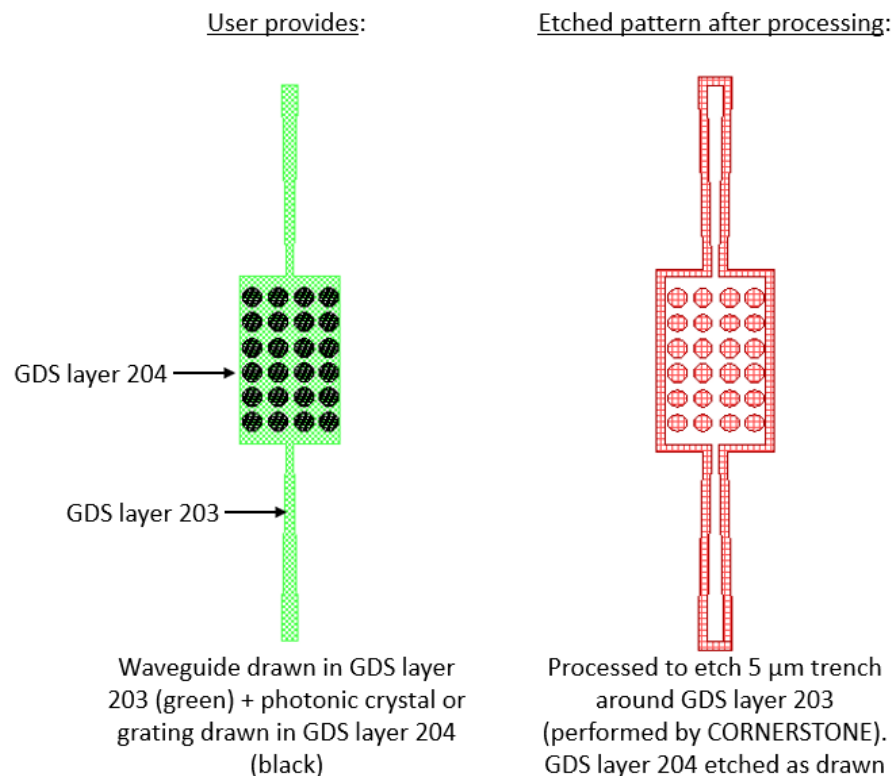

Figure 2 – Example photonic crystal structure using GDS Layers 203 & 204.
- Silicon Nitride Etch 1: 300 nm full etch to BOX – GDS Layer 204 (Dark field): Drawn objects on this layer will be exposed to the silicon nitride full etch to the BOX. An example photonic crystal structure is shown in Figure 2. The important thing to note here is that the waveguide layer drawn in GDS layer 203 should overlap the structures drawn in GDS layer 204, so that when the 5 μm trenches are generated by CORNERSTONE, a continuous waveguide remains. Note that the client should contact CORNERSTONE team if the design has photonic crystal structures with a diameter smaller than 600 nm to decide on whether structures need to be biased.